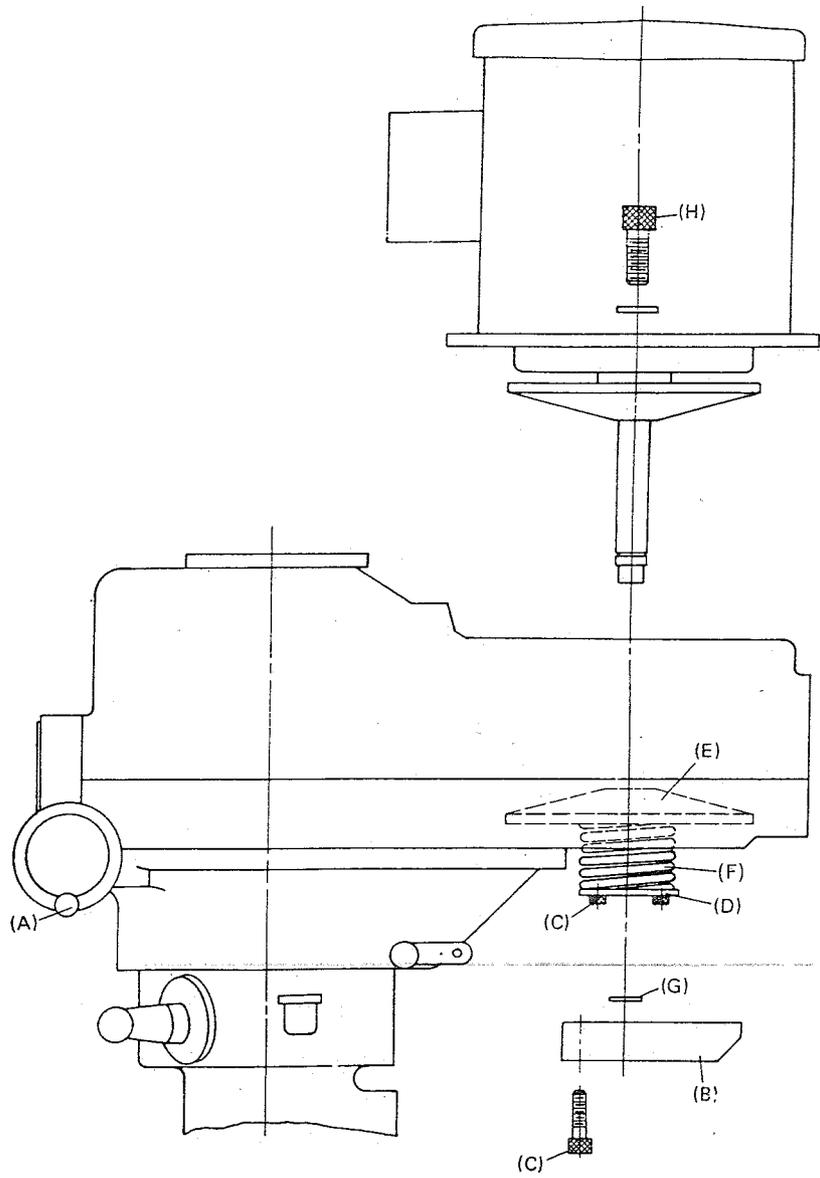

Figure 17
**(1) Dismantling of VS Motor (as shown in Figure 17) :**
- a. Start the motor and turn the speed change handwheel (A) to the position of 60RPM appeared on the indicator to lower down the stationary motor vari-disc to the lowest position.
- c. Remove motor pulley cover (B) under the motor shaft. Then, use the two hexagonal concave bolts (C) that locked the bearing housing, to insert into the two holes of the speed change spring pieces (D). Lock into the motor vari-disc (E) and evenly lock up the two bolts (C). Push down the speed change spring(F) so as to separate it from the retainer ring (G).
- e. Take off the two hexagonal bolts (H) that locked the motor. The motor may be lifted up. Motor vari-disc (E) and speed change belt are still kept inside the belt housing.